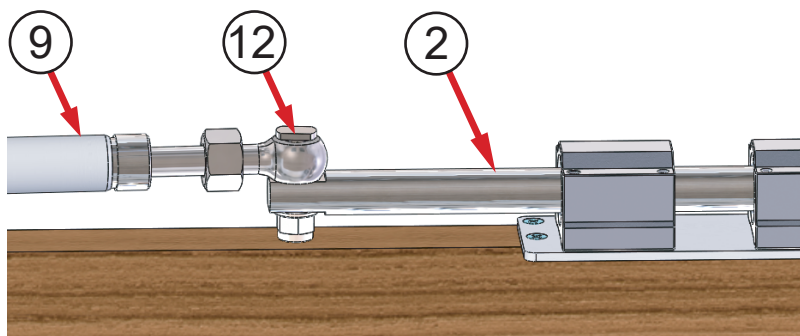

Fig 12
11. Fix the ⑨ connection rod on the ② gear rack rod and the ① gate bracket with ⑫ Latch as Fig 12.